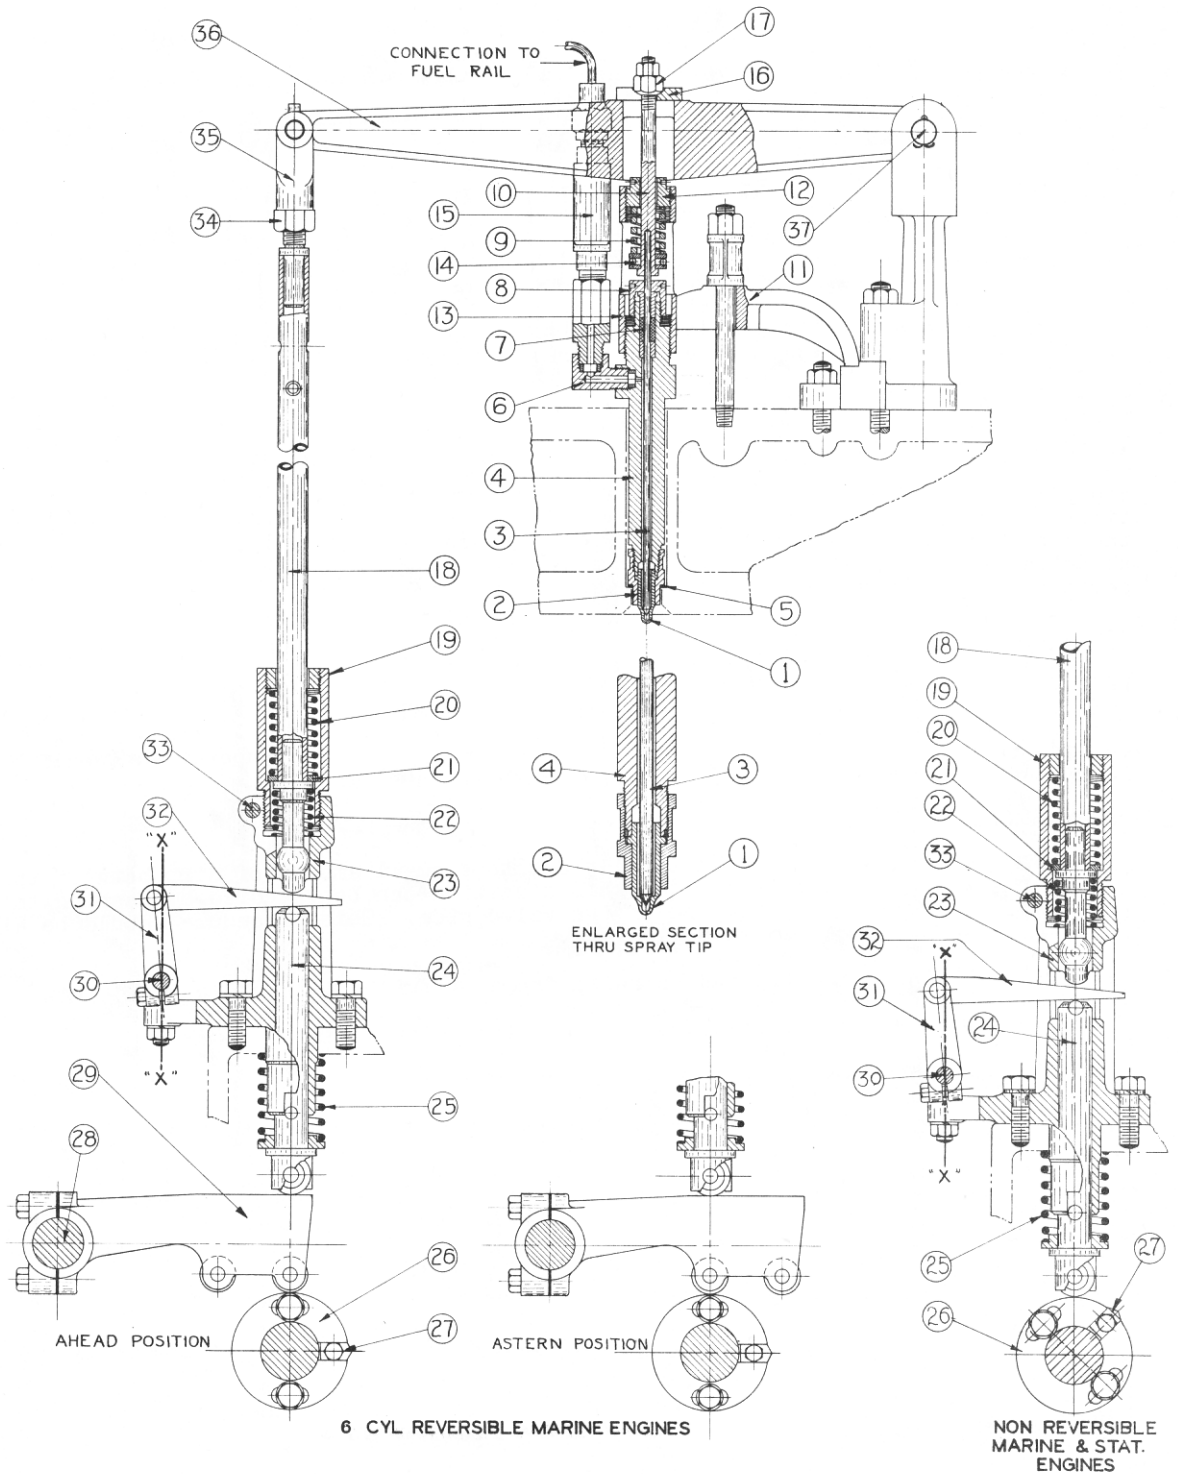

FIG. 0-3
Fundamentally, the spray valve is a heavily spring loaded needle valve. Referring to Fig. 0-3 the seat of the needle valve is incorporated in the tip or nozzle (1) just above the entrances to the spray orifices. The lower end of valve body (4) is counterbored to receive the end of the spray valve tip. A shoulder on the spray tip (1) which is centered in the counterbore, is held securely against the lower end of the body by nut (2). Valve assembly (3) is made up of two sections. The lower section has a conical end which is ground to the seat in the spray valve tip. This lower stem section is pressed into an extension (10) to which the spring loading is applied and by which the stem is lifted. A shoulder on the extension carries a small ball type thrust bearing (14) which acts as a lower spring retainer. Upper spring retainer (12) screws into the upper end of valve spring casing (13) which in turn is threaded to the upper end of valve body (4).
### 7. REMOVAL OF SPRAY VALVE FROM ENGINE (See Fig. 0-3)
9. DISASSEMBLY OF SPRAY VALVE (See Fig. 0-3)
Referring to Fig. 0-3, spring (9) must be adjusted to a certain tension in order to assure proper functioning of the spray valve. It is further important that the adjustment of all the spray valve springs be the same or that the "lift" on all the spray valves be the same. With "lift" as used in the following instructions is understood the lift which spring (9) will allow before its coils touch each other and prevent further upward movement of the valve stem. (The actual lift when the spray valves are operating in the engine is of course determined by the position of fuel wedge (32), the adjustment on pushrod (18) and cam (27). This actual lift is less than the "lift" as defined in this paragraph.) Proceed as follows to assemble the valve and adjust for proper "Lift" (or opening tension):
- (a) Wet spindle (3) with clean fuel oil and slip it into position in the valve body.
- (b) Clean the spray valve tip and install it carefully on the valve body. Tighten valve seat nut (2) securely.
- (c) Screw down on spring retainer (12) carefully until the coils of spring (9) just touch. Be careful not to screw down so hard that valve stem (3) bends, rendering it useless. It is best to have the valve in the test stand when performing this operation and determine when spring (9) becomes solid by means of the test handle. When it is not possible to lift the spray valve stem by means of the test handle the spring coils are touching. The "Lift" is then zero.
- (d) Unscrew spring retainer (12)  $3/4$  to  $7/8$  turns which will make the "lift"  $1/16$ ". The "lift" on all the valves should be between  $1/16$ " and  $5/64$ ".
- (e) Screw down on packing nut (8) until it is just finger-tight.
The spray valve is installed in the engine in the reverse order of its removal. Again referring to Fig. 0-3, if copper gasket (5) is in the cylinder head merely lower the valve into position. If the copper gasket (5) was removed with the valve, the gasket can be held in position on the lower end of the valve by a thin coating of grease applied to the washer.
16. SPRAY VALVE OPERATING MECHANISM (See Fig. 0-3)
Motion of the lifter is transmitted to the pushrod through wedge (32). As can readily be seen in Fig. 0-3, moving the wedge inward will decrease the gap between the lifter and the pushrod. Consequently the spray valve will open sooner, will lift higher, and will close later. Moving the wedge outward produces the opposite re-